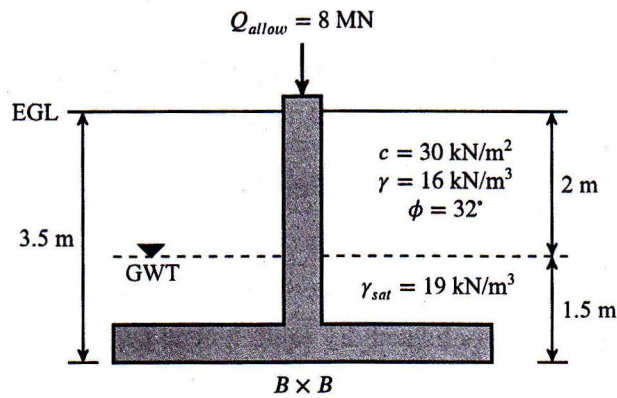

Figure 2
2. (a) What are the assumptions of Terzaghi's bearing capacity theory? (4)
- (c) An individual shallow square foundation as shown in Fig. 2 is required to carry an allowable load of 8 MN. If the factor of safety is 3, what will be the size of the foundation? Use Terzaghi's bearing capacity equation and factors. (10)